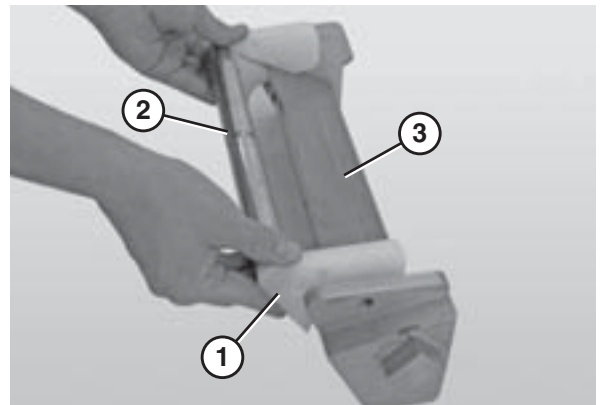

Figure 83
5. Slide the nose bar puck holders (Figure 83, item 1) and the nose bar spindle (Figure 83, item 2) off of the nose bar weldment (Figure 83, item 3).